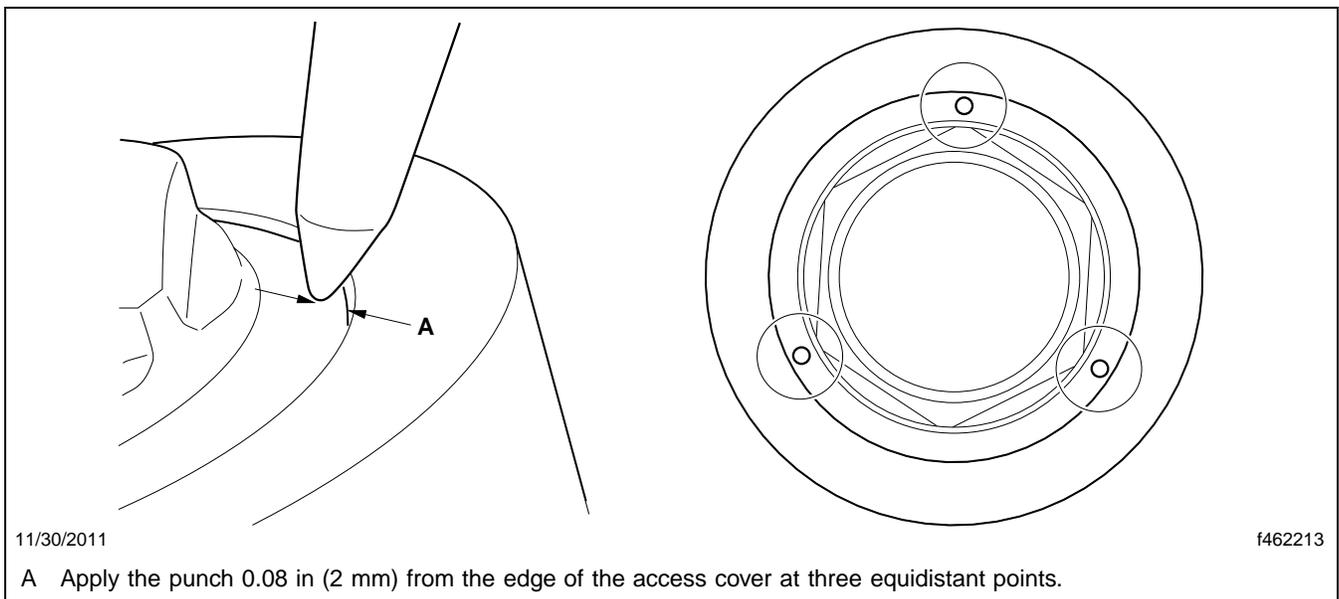

Fig. 19, Center Punch the Bearing Access Cover
2. Place the new ball bearing access cover on a bench or table. Using a center punch, lightly tap three small equidistant punch marks on the outside of the cap. See **Fig. 19**. Each mark should be approximately 0.08 in (2 mm) from the outer edge of the cover.